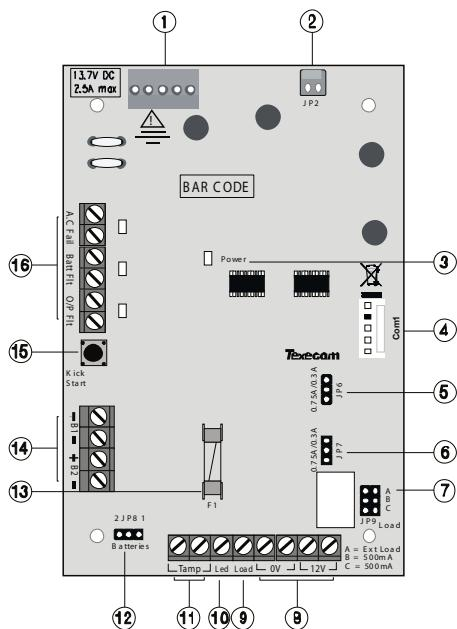

Figure 2. PCB Layout
"Load" and "12V" terminals (see items ⑧ and ⑨ of Figure 2).